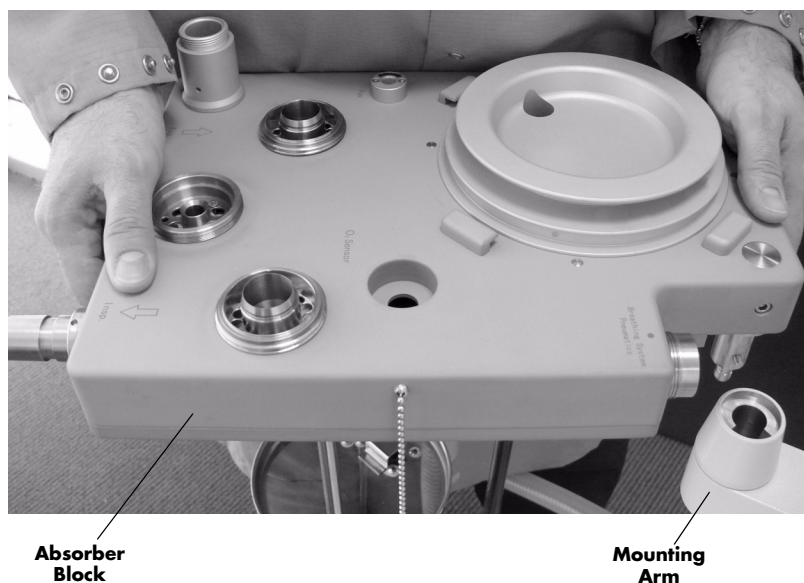

FIGURE 3-21 Breathing System Block Removal
5. While grasping the sides of the breathing system block as shown in FIGURE 3-21, lift it away from its mounting arm.